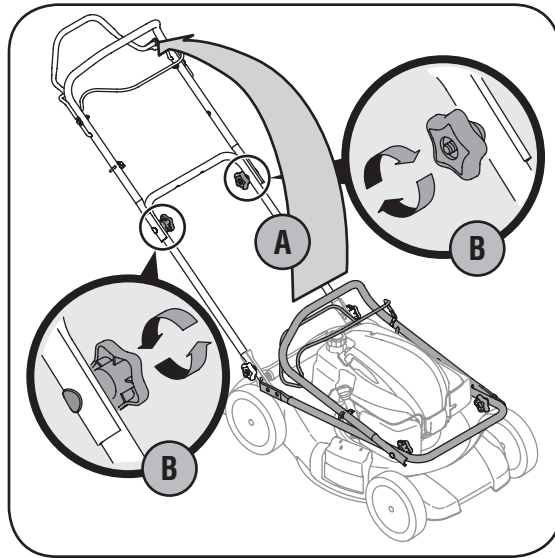

Figure 3-1: Unfold handle and tighten hardware.
- a. Pull up and back on upper handle as shown in Figure 3-1. Make certain the lower handle is seated securely into the handle mounting brackets. Do not crimp cable while lifting the handle up.
- b. Tighten star knobs securing upper handle to lower handle. See Figure 3-1. Make certain the lower handle is seated securely into the handle mounting brackets.